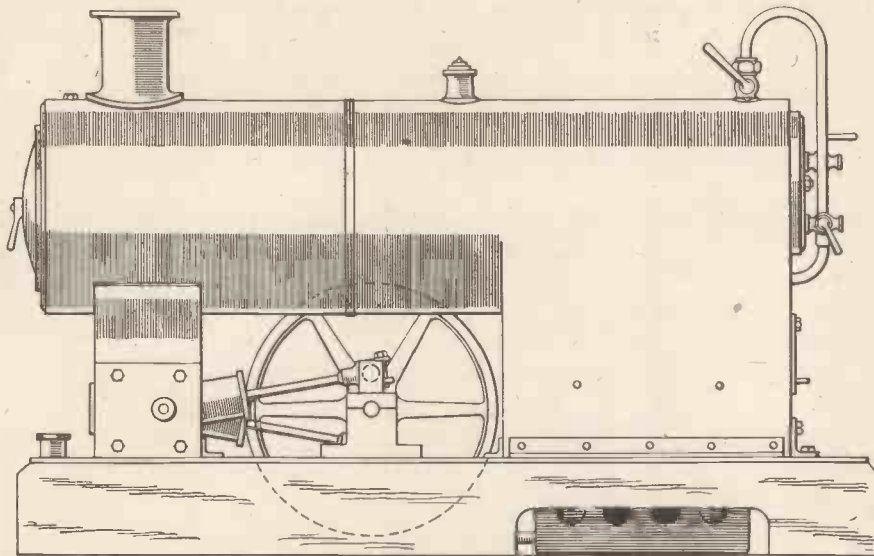

Fig. 1—Side elevation of the complete model undertype engine and boiler.
**T**HIS model forms a very compact and self-contained steam plant, the engine being arranged below the boiler, as shown in Fig. 1. Two single-acting oscillating cylinders are used, and these drive a fairly heavy flywheel through the medium of a double-throw crankshaft. The front ends of the cylinders, together with the steam distributing blocks, are housed in the smokebox saddle. The bedplate, on which the bearings, firebox, etc., are mounted, consists of a piece of planished steel plate, which forms a covering for the wooden base, or plinth.
The boiler is of the enclosed water-tube type, the inner, or boiler proper, provided with three water tubes, being housed in an outer casing which conserves the heat from the methylated spirit lamp which is used for fixing. A side view of the finished engine is given in Fig. 1.